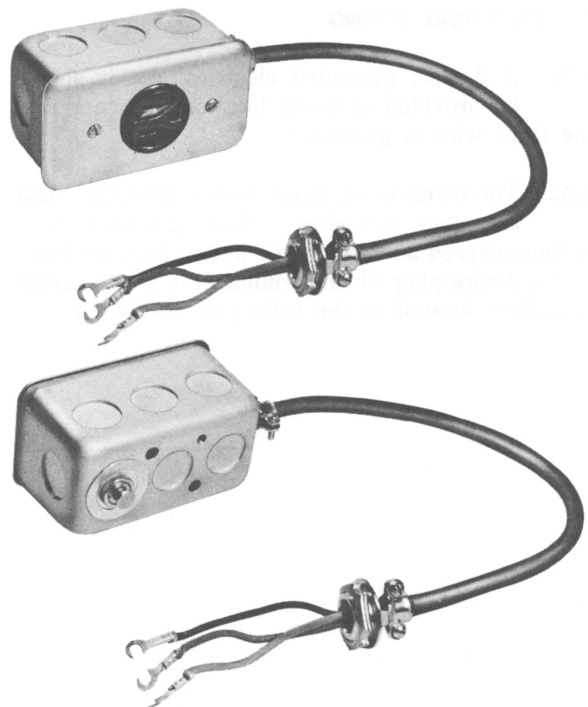

Fig. 4—KS-19340, List 56 Sign Control Assembly
7.01 The KS-19340, List 56 sign control assembly (Fig. 4) is optional. It may be used to provide switch control for the illuminated KS-16422 telephone sign when it is installed in the vicinity of the booth.